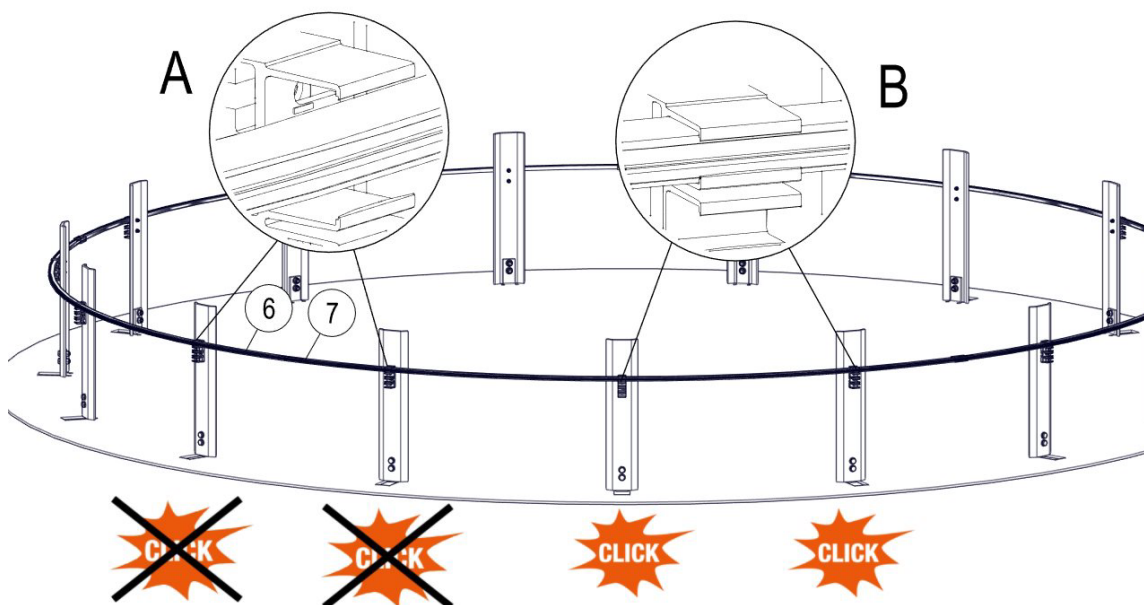

Fig. 65: Mount the last conductor rail bend
- Mount the last conductor rail bend (Pos. 7) in the hanger clamp (B) up to, but in, the last hanger clamp (A) in order for the last connection point to be flexible. This means that the end of the first conductor rail bend (Pos. 6) and the end of the last conductor rail bend (Pos. 7) are not yet mounted in the hanger clamp (A) and are now hanging across from each other (see Fig. 65).